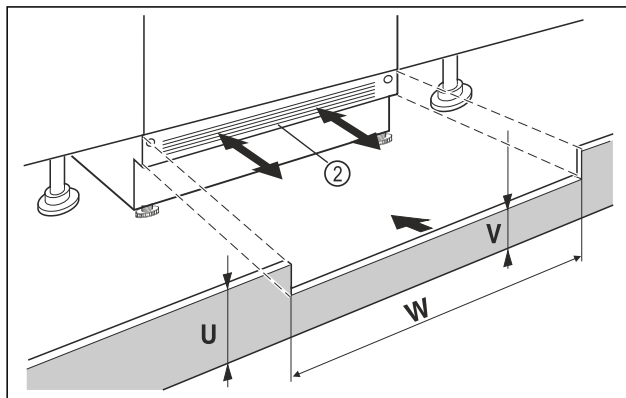

Fig. 71 Example illustration
- Put on the appliance base cover Fig. 71 (2) but do not fix it yet.
- If the base cover Fig. 71 (2) is visible, pull it so far forward that the front edge of the ventilation grille and the unit base cover form one level.
- If the base cover is concealed Fig. 71 (2), push it all the way back.
- Ensure that the ventilation slots are completely free: If necessary, cut the height of the unit base cover Fig. 71 (U) to size!
- Adjust the bar height Fig. 71 (V) under the appliance base cover Fig. 71 (2) along the recess width Fig. 71 (W).